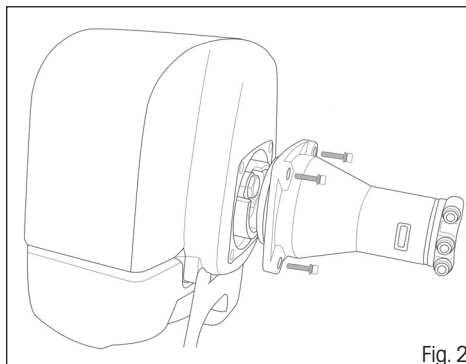

Fig. 2
- ✿ Using the four included screws, attach the engine of the brush cutter to the shaft (see fig. 2).